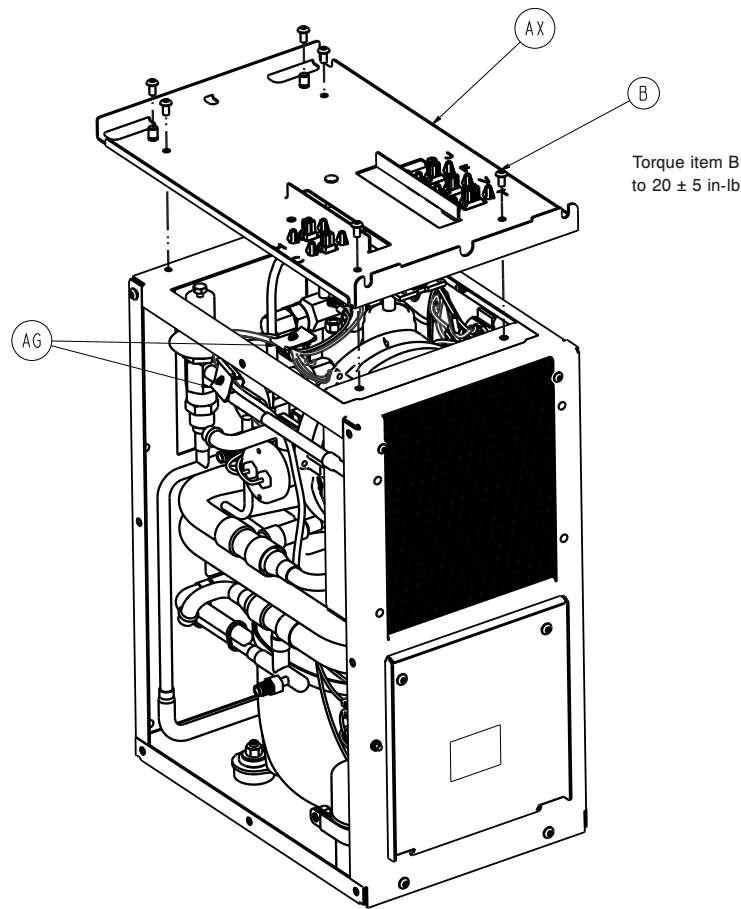

Figure 23 – Top bracket
15. Using a T25 Torx driver, remove the four screws (B) that secure the top bracket (AX) to the thermal unit (Figure 23). Save the screws.